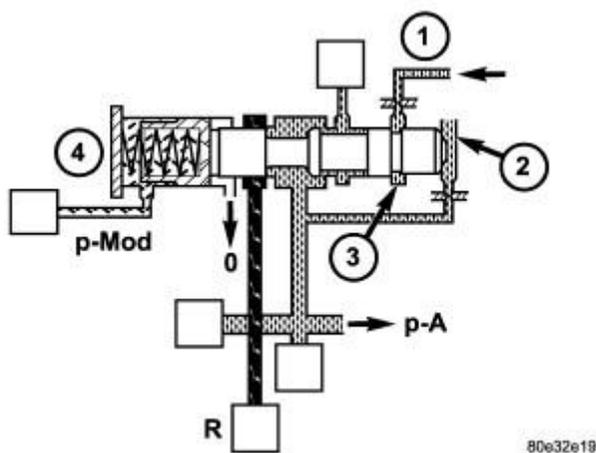

Fig. 231: Working Pressure Regulating Valve
The working pressure (p-A) is regulated at the working pressure regulating valve (4) in relation to load (modulating pressure, p-Mod) and gear (K1 or K2 pressure) (1). Refer to **Fig. 231**. The spring in the working pressure regulating valve sets a minimum pressure level (basic pressure).